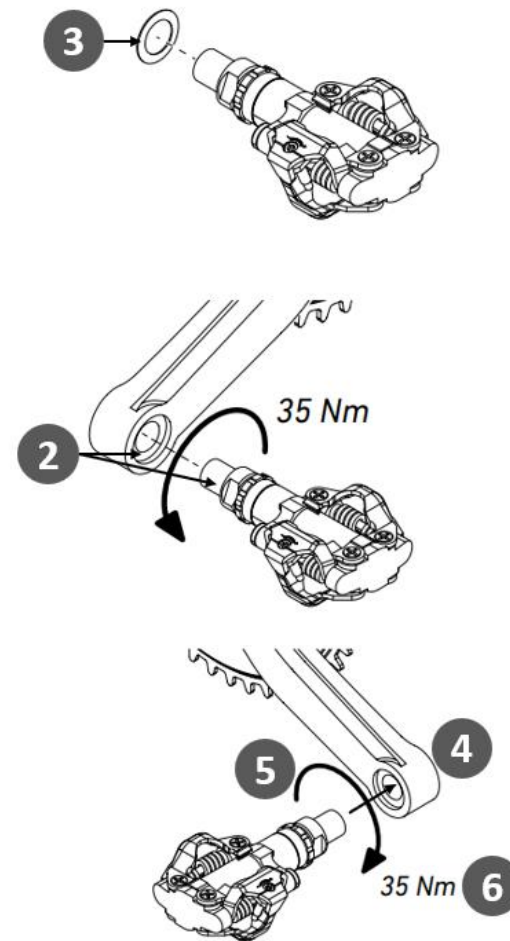

fig. 23
NOTE: Screw 12 (see fig. 23) on the A-head cap is not used to tighten the stem, but only to adjust the bearing clearance!
- 1 Turn the front fork & the stem to face forward, fig. 23
- 2 Apply a small amount of grease to each pedal thread and crank arm hole and the, see fig. 23.
- 3 Check if your pedals were supplied with washers and slide both washers onto the pedal axles – if present, see fig. 23.
- 4 Place the threaded pedal into the hole on the crank arm, see fig. 23.
- 5 By hand, slowly turn the spindle the correct direction. Clockwise for right side pedal, counterclockwise for left side pedal. Important! Stop if you feel resistance! This may be an indication the spindle is entering the hole at an angle. Remove the spindle and repeat step four, see fig. 23.
- 6 If the spindle is entering the hole cleanly then use a 15 mm pedal wrench and tighten both pedals to a torque of 30 to 35 Nm (to determine correct tightening torque refer to pedal manufacturer's instructions for installation), see fig. 23.